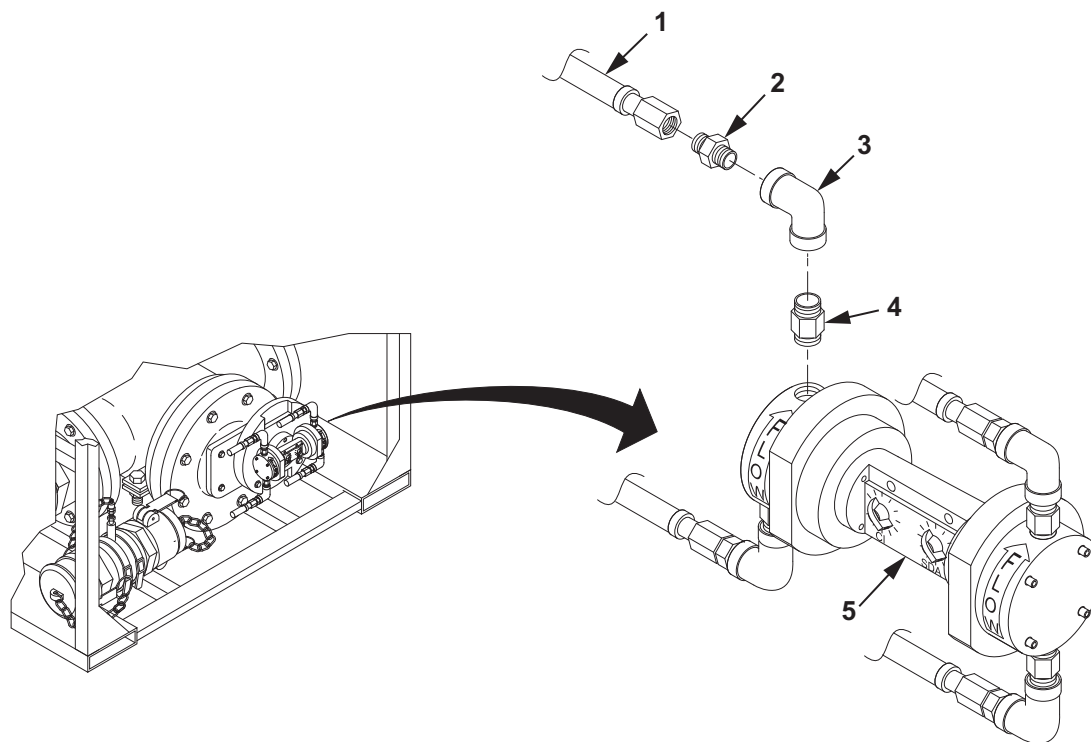

Figure 1. Fuel Additive Injection Discharge Check Valve Replacement.
1. Apply teflon tape to threads of new discharge check valve (Figure 1, Item 4).
2. Install new discharge check valve (Figure 1, Item 4) on CI and SDA pump (Figure 1, Item 5). Tighten discharge check valve (Figure 1, Item 2).
3. Connect 90° elbow assembly (Figure 1, Item 3) to discharge check valve (Figure 1, Item 4). Tighten elbow assembly (Figure 1, Item 1).
4. Apply teflon tape to threads of tube adapter (Figure 1, Item 2).
5. Install tube adapter (Figure 1, Item 2) on 90° elbow assembly (Figure 1, Item 3). Tighten tube adapter (Figure 1, Item 2).
6. Connect discharge tube assembly (Figure 1, Item 1) to tube adapter (Figure 1, Item 2). Tighten discharge tube assembly (Figure 1, Item 1) and remove tags.